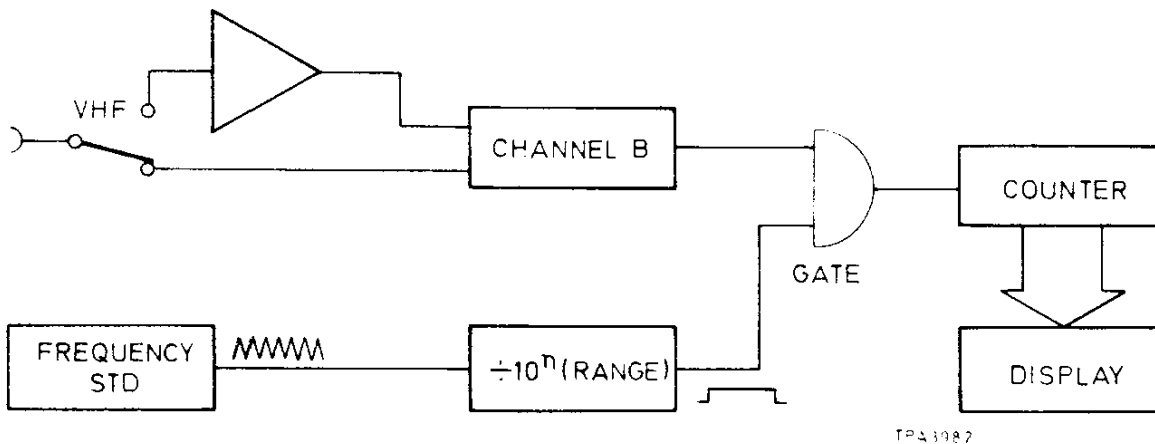

Fig. 2 FREQ B mode
3. 2437 acts as a frequency meter in the FREQ B mode, see Fig. 2. The gate is opened for an exact time taken from a sub-multiple of the frequency standard. During this time, pulses that are derived from channel B input signal are admitted to the counting stages, resulting in a reading of pulses per unit time; i.e., frequency. Range switches allow selection of other sub-multiples of the frequency standard, to give flexibility of gate time, accuracy and resolution. The input signal is routed via the v.h.f. amplifier when the frequency to be measured is between 10 MHz and 100 MHz.